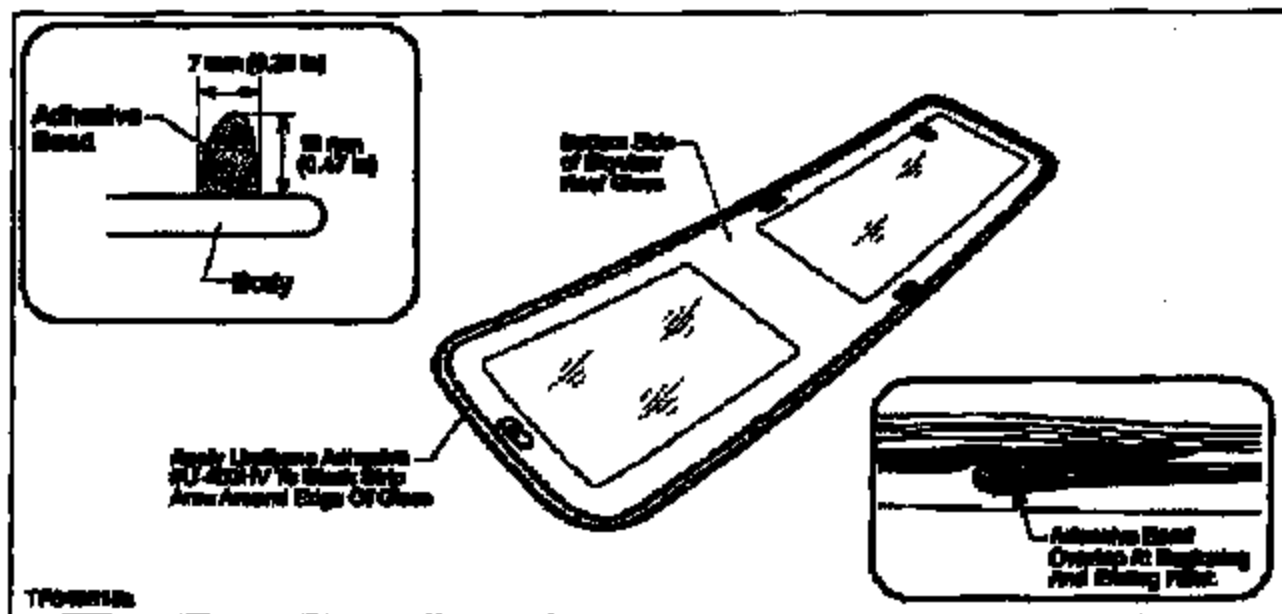

Figure 10
13. Apply a bead of Urethane Adhesive to the new Skyview Roof Glass over the Primer coats (see Figure 10).
- Apply Adhesive around the Glass on top of the U-402 that you just applied (see Figure 10).